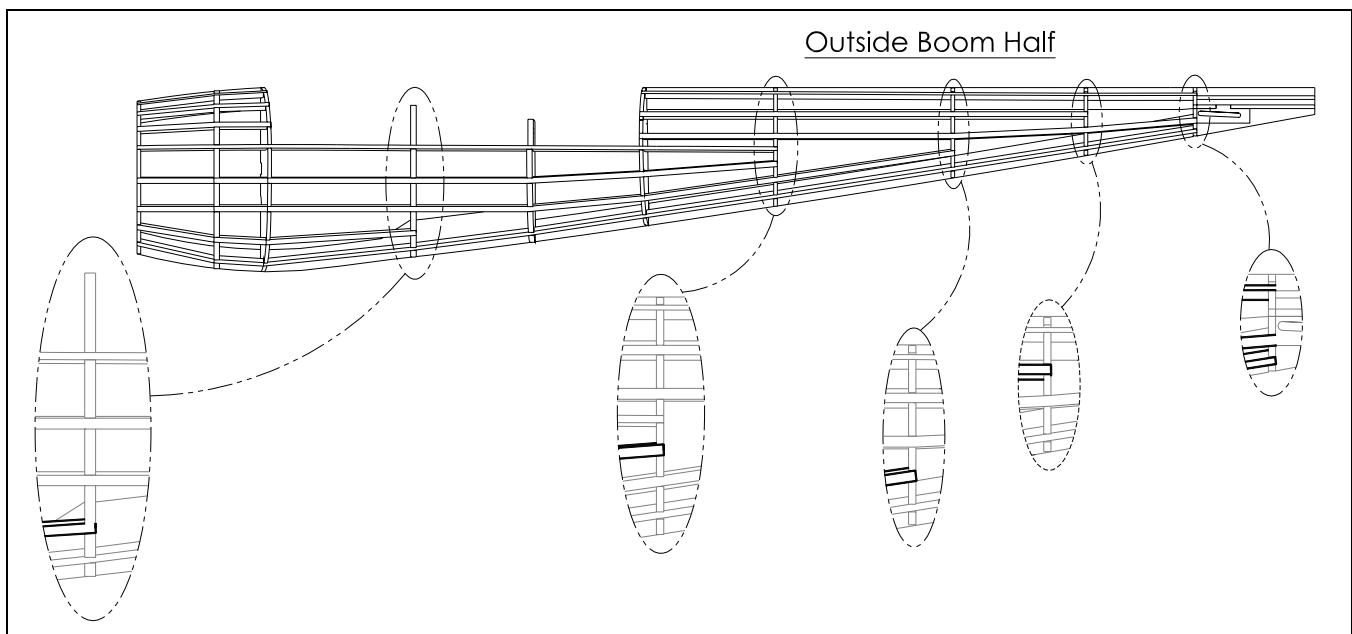

Figure 3
- Glue **3/32" SQ. Balsa Stringers** to the boom formers as shown in Figure 3 and the plans. Figure 3 illustrates important areas of the boom where stringers end.